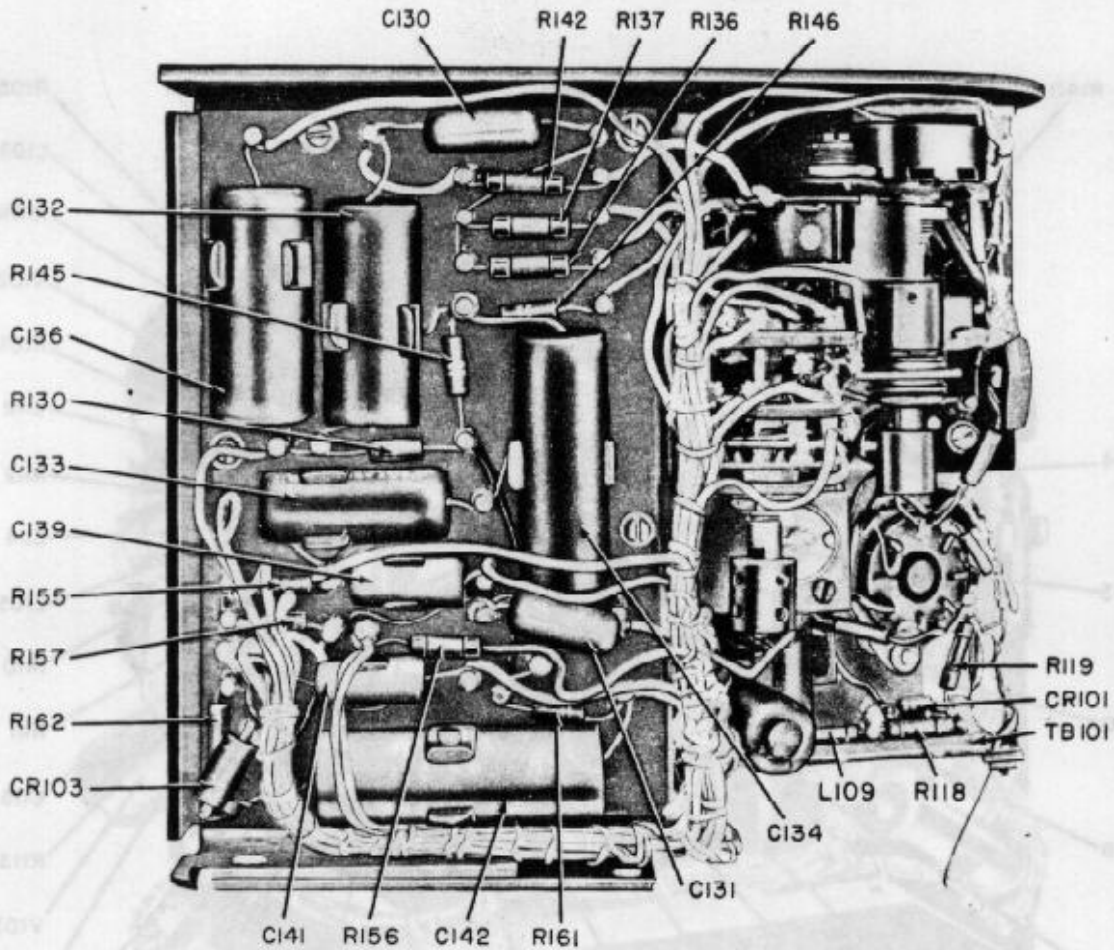

Figure 7-10. Bridge Assembly Components
| b. REGENERATION CONTROL ADJUSTMENT | <p style="text-align: center;">Note</p> <p>The position of the DEGEN control (R143) is a critical adjustment.</p> <p>(1) Turn % MOD control (E104) fully clockwise.</p> <p>(2) Turn DEGEN control (R143), (see figure 7-10), until audio oscillations start. Do not advance beyond this point as distortion of the audio signal will result.</p> |